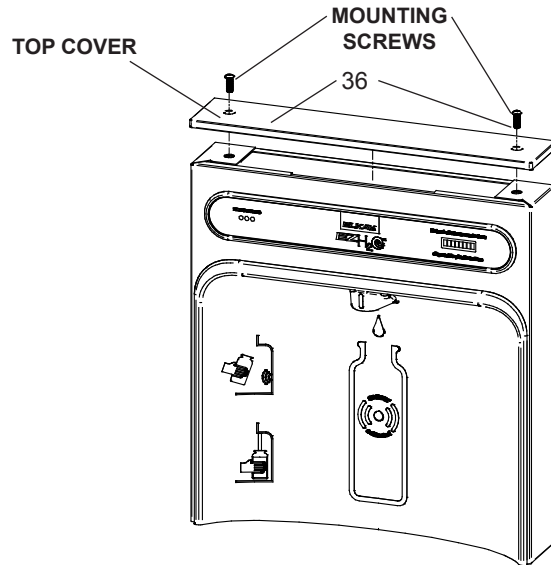
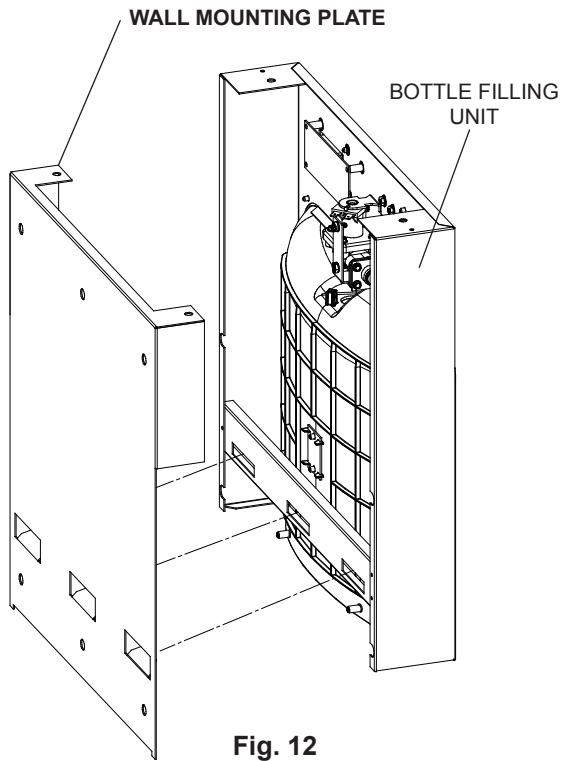

Fig 9
Fig. 12
- 1) **Remove two (2) mounting screws** with 5/32" Allen wrench holding top cover to Bottle Filler (See Fig. 9). Remove top cover. Note do not discard mounting screws, they will be needed to reinstall top cover.
- 8) **With the power cord and waterline through hole** on top of water cooler place Bottle Filler on the three (3) angled tabs protruding from the wall mounting plate installed on wall. Make sure round boss in gasket fits in hole of basin. (See Fig. 12).
- 9) **Once Bottle Filler is installed on wall plate tabs,** water line and power cord are installed properly, push top of Bottle Filler toward wall and line up top cover two (2) holes.
- 10) **Reinstall Top Cover on Bottle Filler** (See Fig. 9) with two mounting screws from step 1 above. Caution, do not over tighten screws.